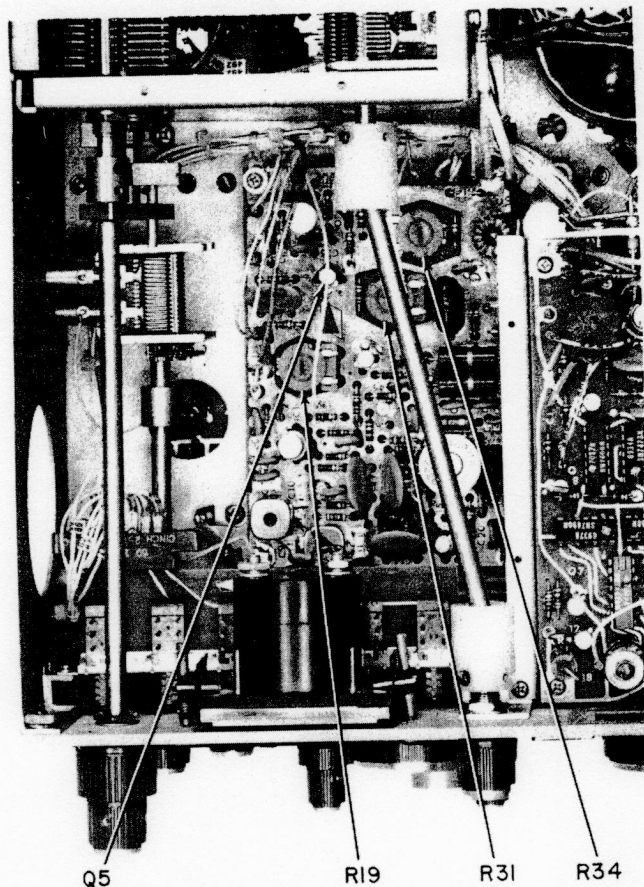

Figure 5-7. Location of Control Grid Fixed Bias and ALC Adjustments on RF Driver Board
5. Adjust RF Driver board resistor R31 (see Figure 5-7) for a plate meter indication of "1" (100 MA) on the black scale.
6. Adjust RF Driver board resistor R34 (see Figure 5-7) for zero VDC on the collector of transistor Q5 (also on the RF Driver board) as measured with a VOM, or VTVM.
RF Driver board resistor R19 (see Figure 5-7) may have to be adjusted to obtain a minimum output power of 130 watts at 29.3 MHz.
4. Vary the "OUTPUT" control while observing the meter needle rate of movement. If the movement is excessive, adjust RF Driver board resistor R19 (see Figure 5-7) so that the needle does not violently peg on right-hand side of the meter.